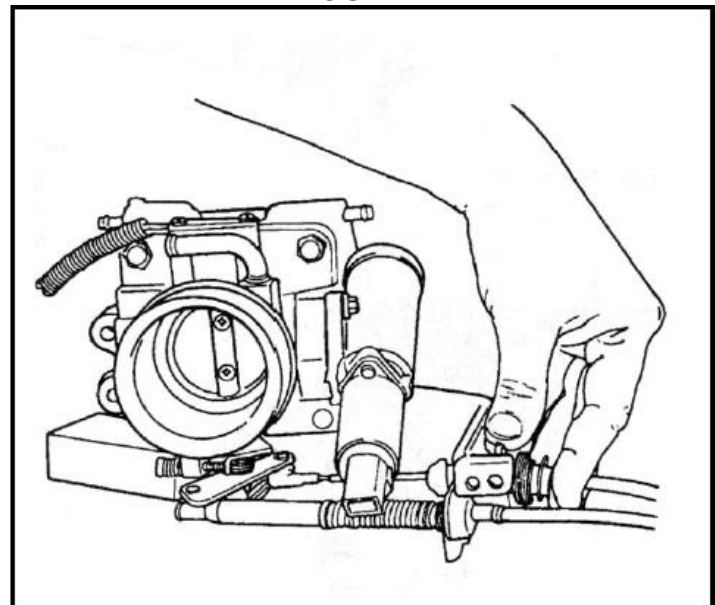

FIGURE 8
- 5.8 Push on the slider from behind bracket until TV pressure is 227 kPa (33 psi). While still holding slider, push down on toggle lever as far as it will go, locking slider in position. (See Fig. 8). NOTE: Toggle lever must be completely down (lying flat in cable adjuster assembly) to lock properly.